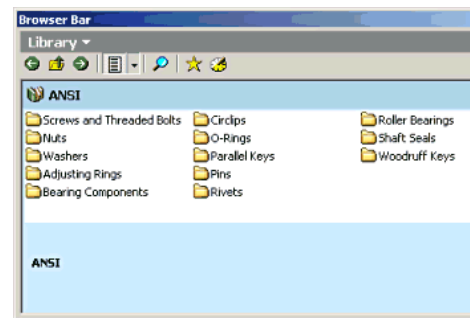

Figure 10: The Content Library
6. Create another part, such as the bar full of holes also shown in figure 10.
Autodesk Inventor software includes a library of standard fasteners, bearings, keys, and other mechanical parts. These components are available in a wide range of international standards, including ANSI, ISO, DIN, BSI, and JIS. The library browser is a separate pane in the assembly browser, as shown in Figure 10.